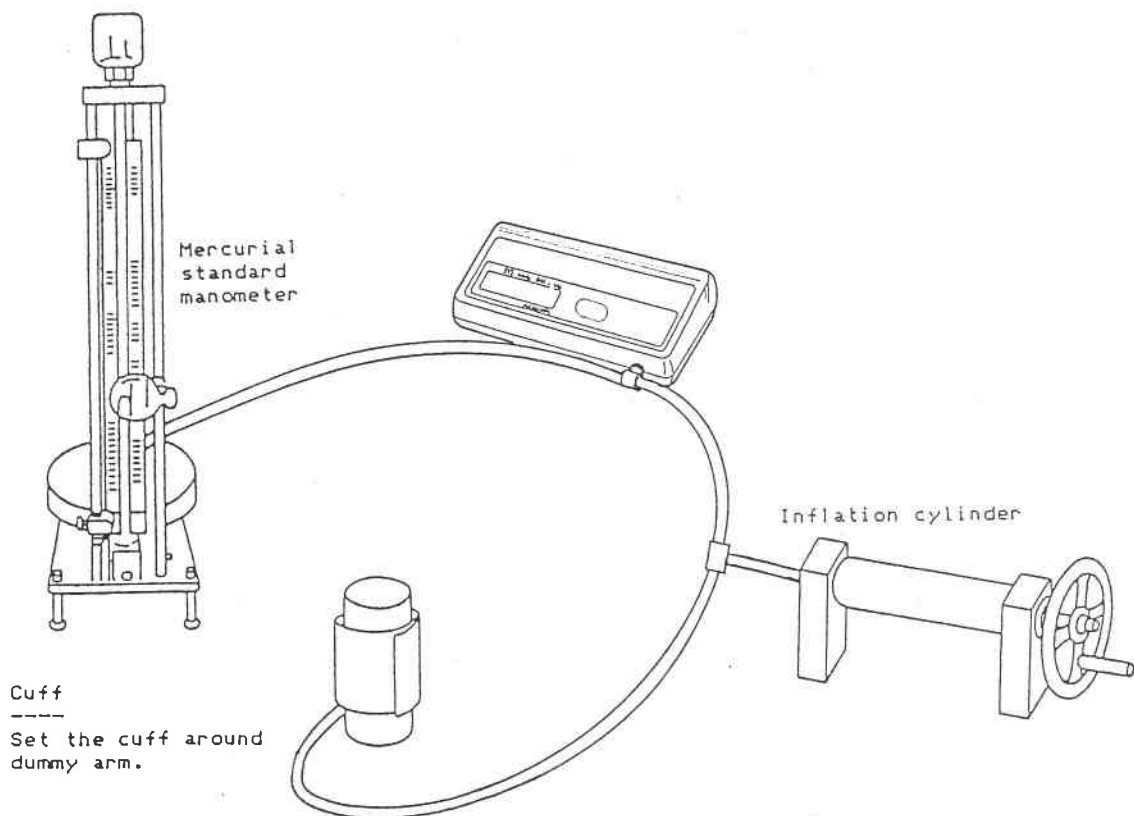

Fig. 8-2
- a) Connect the unit to the standard gauge as shown in Fig.8-2